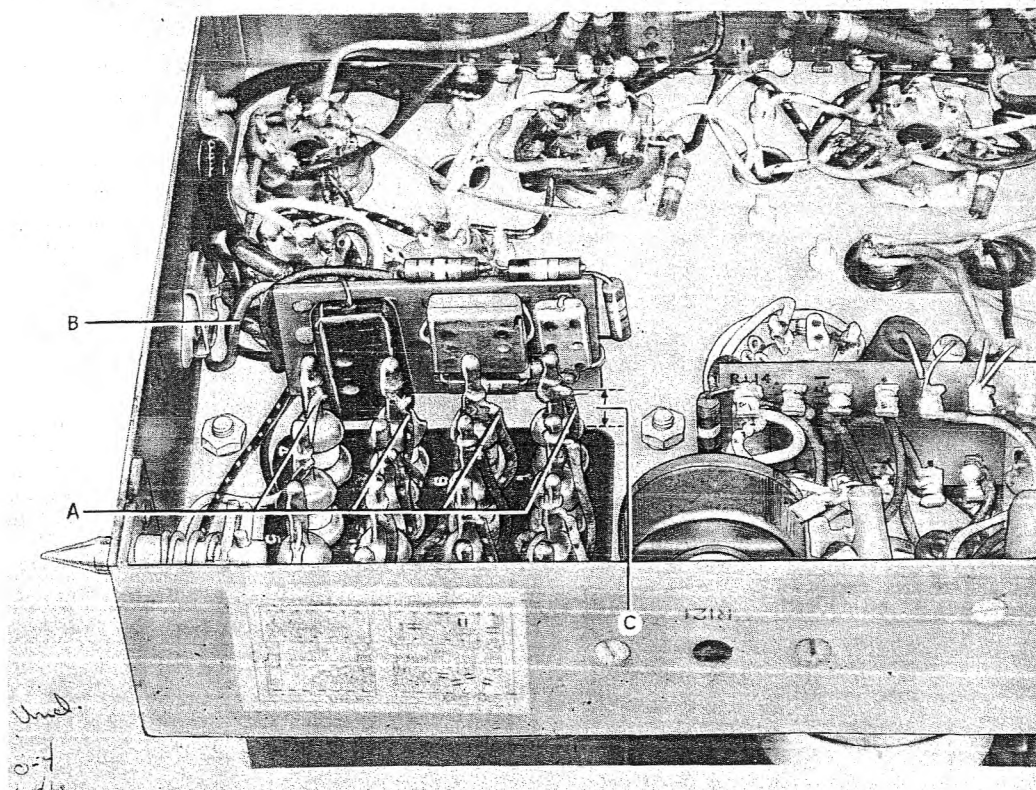

Figure 6-3. Transformer T-104—Transformer Lead Dress for Reducing Ripple
(1) Shield the four terminals, marked A, (see fig. 6-3) with spaghetti.
(2) Dress the brown lead from pin 6 of socket X-101-7 to terminal board.
(3) Rewire so that space between transformer T-104 and adjacent terminal board is clear of leads.
(4) Check bonding of power source and receiver chassis.